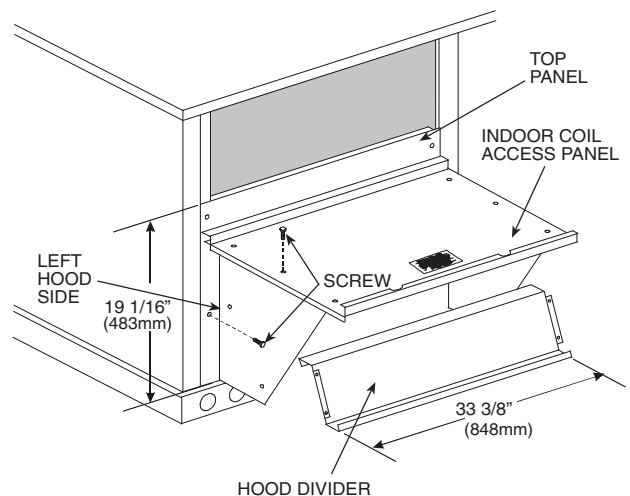

Fig. 24 — Economizer Hood Construction (Sizes 07-14)
2. Swing out indoor coil access panel and insert the hood sides under the panel (hood top). Use the screws provided to attach the hood sides to the hood top. Use screws provided to attach the hood sides to the unit. See Fig. 24.
4. Insert the hood divider between the hood sides. See Fig. 24 and 25. Secure hood divider with 2 screws on each hood side. The hood divider is also used as the bottom filter rack for the aluminum filter.